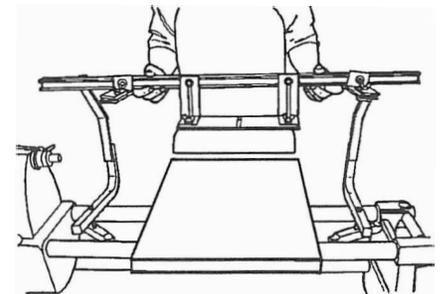

Fig. A-39
**34.** If not already done, move the Mark V headstock all the way to the left. Lift the support bracket assembly in place, as seen in Fig. A-39. Rotate the clamps so the way tubes fit into the clamp depressions.